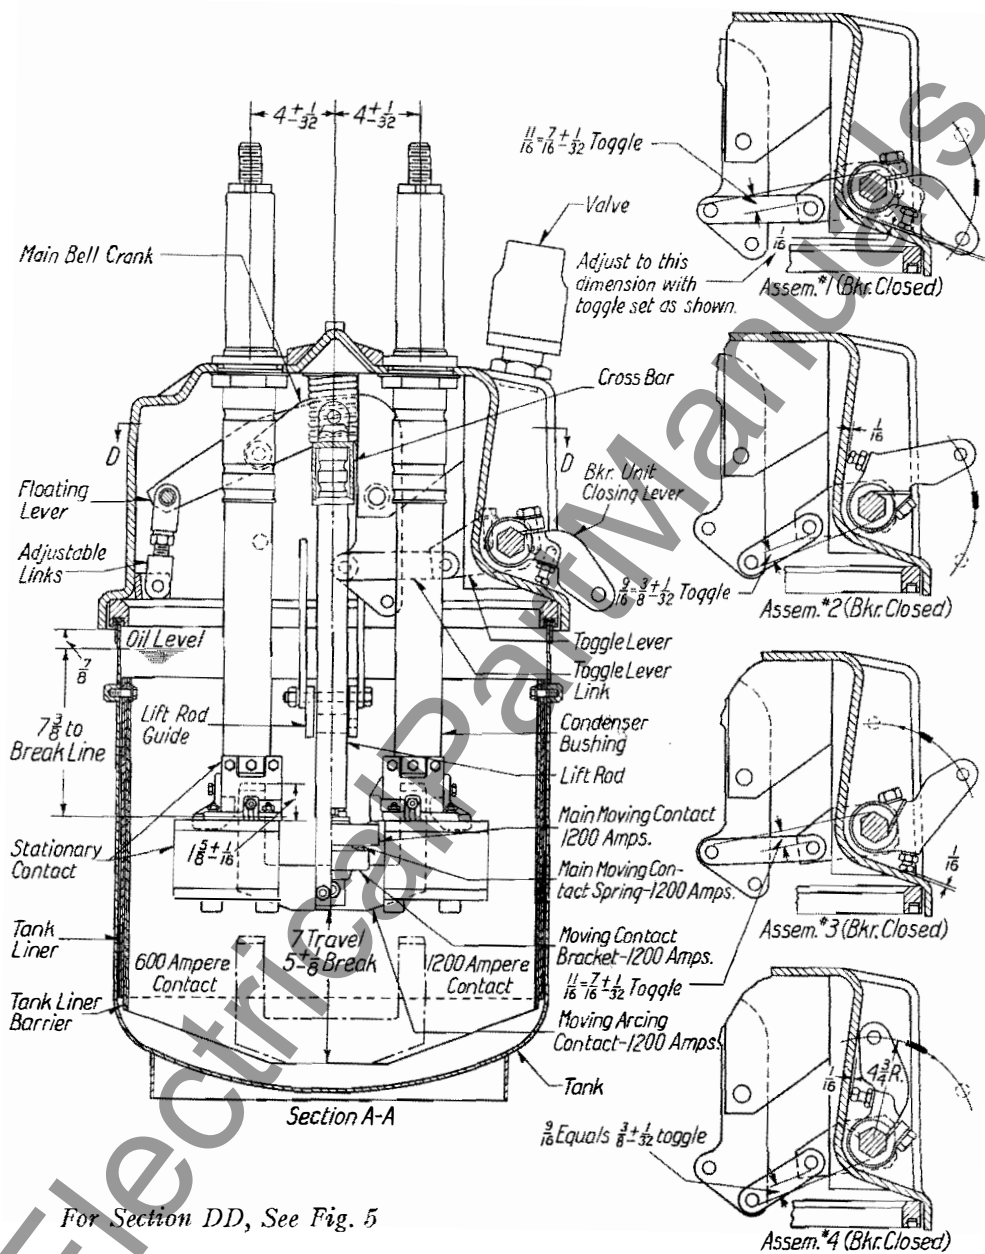

FIG. 2—CROSS SECTION OF TYPE B-20-B OIL CIRCUIT-BREAKER SHOWING VARIOUS ARRANGEMENTS OF TOGGLE LEVER AND LINK ASSEMBLY
For Section AA, See Fig. 2.
Breaker Mechanism—The toggle mechanism is designed for reversible operation, so that the direction of operation can be changed by a simple change in the location of the toggle pin which is located in the toggle lever. No adjustment is required on the toggle setting as this is set at the factory. This setting is such that with the breaker in the closed position there is a clearance of $\frac{1}{16}$ inch between the operating lever set screw and the breaker top. The toggle is set $\frac{3}{8}$ inch off center. See Fig. 2.
The main contacts of the 1200 ampere capacity breaker (Figure 2) are adjustable by turning the bracket up or down on the lift rod. With the breaker in the closed position the distance between the contact cross bar and cross bar bracket should be $\frac{1}{8}$ to $\frac{5}{32}$ inch. It is important that this dimension be maintained.
When the breaker unit and its operating mechanism are shipped separately, it is important that the operating rod between the two units be properly adjusted. The adjustment should be made, so that there is a full $\frac{1}{16}$ inch clearance between the operating lever and the breaker top, when the breaker is fully closed and latched. See Fig. 2.
7. Inspect the oil regularly and after severe short-circuits. If it shows signs of moisture, carbonization or dirt, filter and retest it before replacing it in service. See that the oil level in the tanks is maintained at the proper height. See Fig. 2.